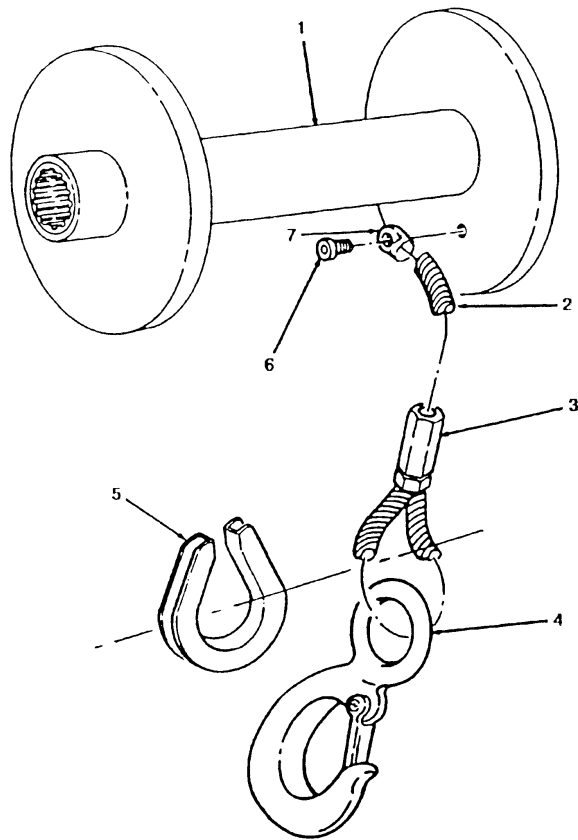
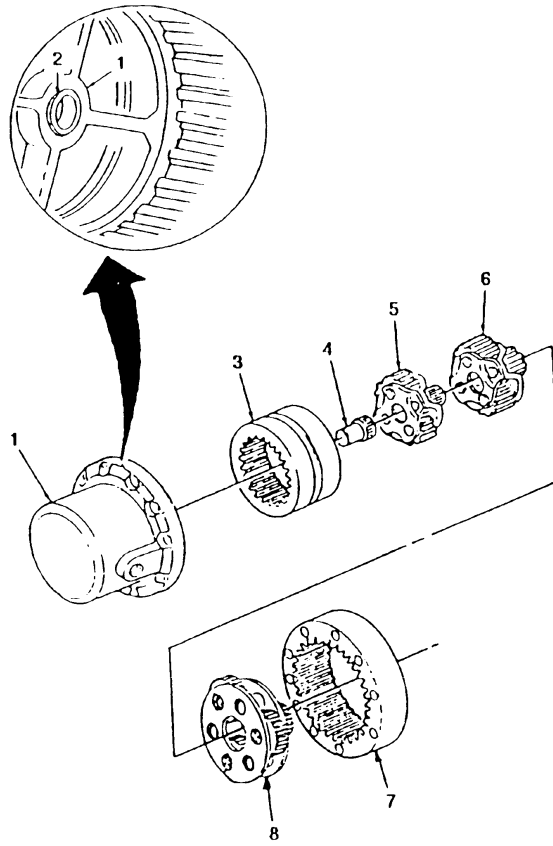

FIGURE 3-3
FIGURE 3-5
- a. After step 2, add, "remove terminal (7) from winch cable (2)". (see figure 3-3)
- b. Replace step 3 with "loosen clamp (3) securing hook (4) and thimble (5) to winch cable (2) and remove hook (4), thimble (5), and clamp (3) from winch cable (2)".
- a. Replace step I with "Install clamp (3), hook (4), and thimble (5) on winch cable (2) and secure with clamp (3)". (see figure 3-3)
- b. After step 1. add, "Install terminal (7) to winch cable (2)".
3. Step 10: "Inspect end housing (1) and bushing (2) for wear or damage. Replace as an assembly if worn or damaged. If end housing (1) and bushing (2) are to be reused, lubricate bushing (2) with bushing grease." (see figure 3-5)
4. Step 11: "Inspect gear teeth splines and machined surfaces of clutch ring gear (3), stage-one sun gear (4), stage-one gear carrier (5), stage-two gear carrier (6), stage-three gear carrier (8), and ring gear (7) for damage. Replace any damaged parts".
5. Skip step 5 on page 15-11 if splined drive (1) and retainer ring (2) of stage-three gear carrier (3) are assembled. (see figure 3-3)